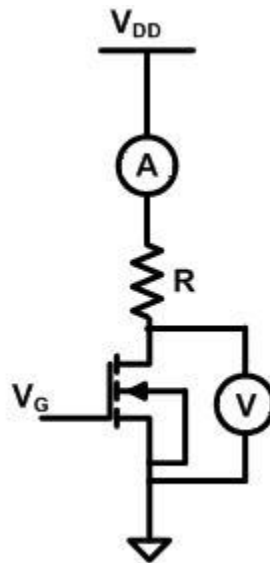

Fig. 14.3
- Make the circuit shown in fig 14.3 on bread-board